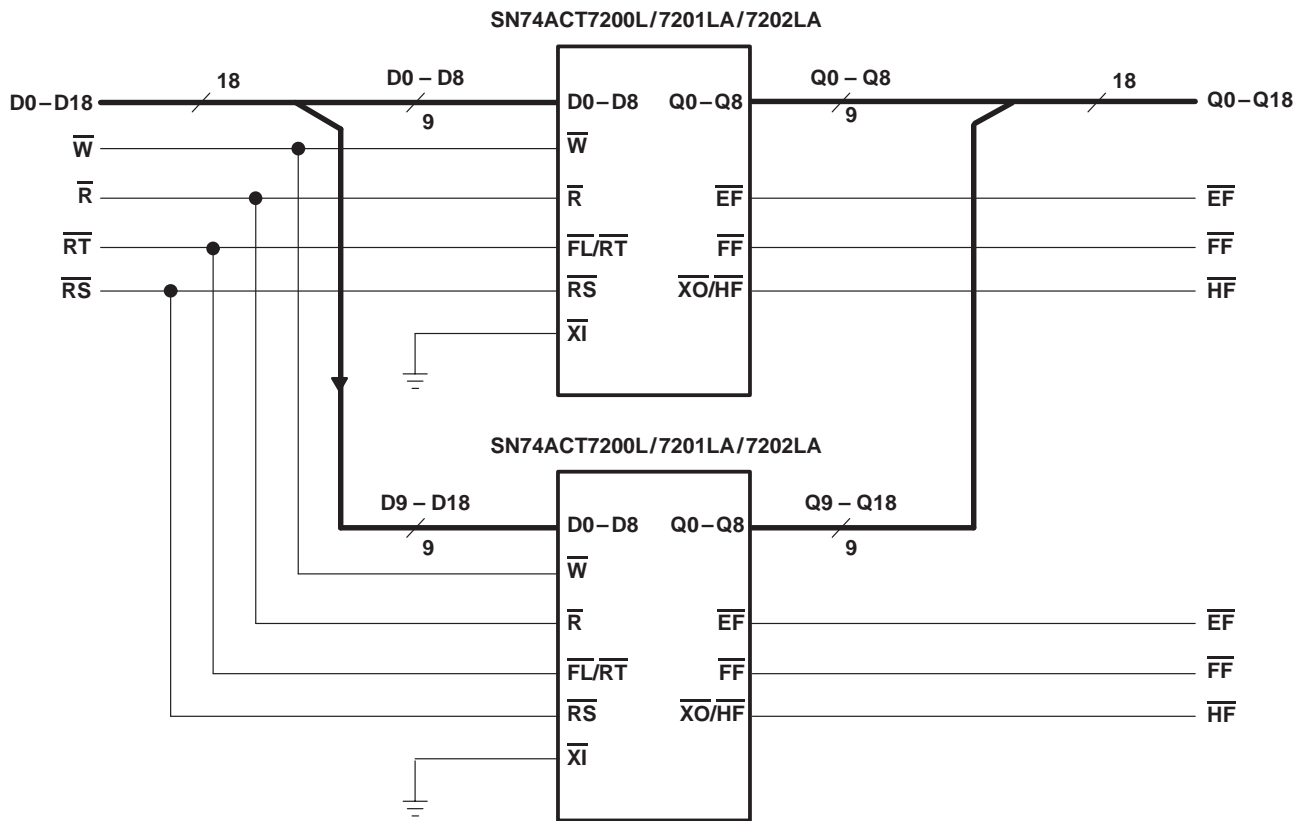

Figure 14. Word-Width Expansion: 256/512/1024 Words × 18 Bits
Word-width expansion is achieved by connecting the corresponding input control to multiple devices with the same depth. Status flags (EF, FF, and HF) can be monitored from any one device. Figure 14 shows two FIFOs in a width-expansion configuration. Both devices have their expansion-in (\overline{XI}) inputs tied to ground. This disables the depth-expansion function of the device, allowing the first-load/retransmit ($\overline{FL/RT}$) input to function as a retransmit (\overline{RT}) input and the expansion-out/half-full ($\overline{XO/HF}$) output to function as a half-full (HF) flag.